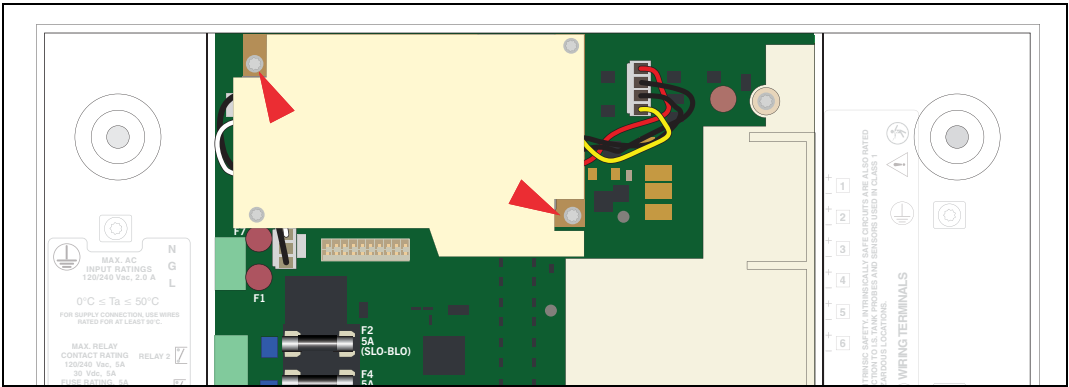

Figure 9. Remove Two Corner T10 Screws From Power Supply Board
7. Remove the two T10 #4 x 0.625 screws from the opposite corners of the power supply board and set them aside (see Figure 9).